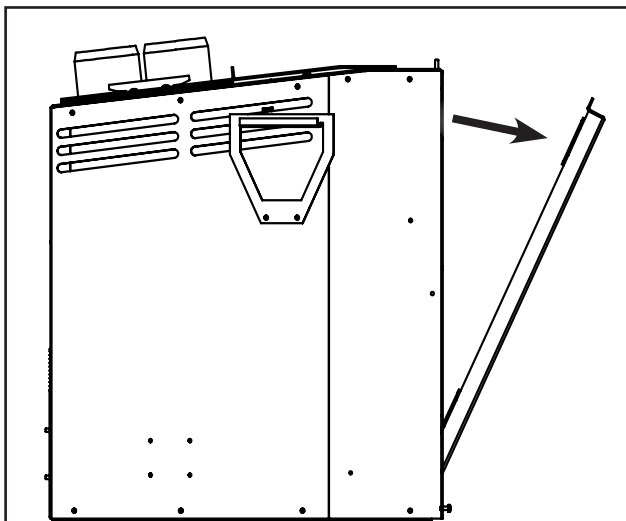

Figure 22: Door Removal
The glass door of the fireplace is retained at the top by two spring latches as shown in Figure 20. Release the latches by placing the hooked end of the door tool in the hole on the door latch mechanism (see Figure 21-A,B) and pulling the latch forward then out to the side. When the two (2) latches have been released, tilt the top of the door forward and lift up to remove the door (Figure 22). To re-install the glass door simply reverse the procedure.